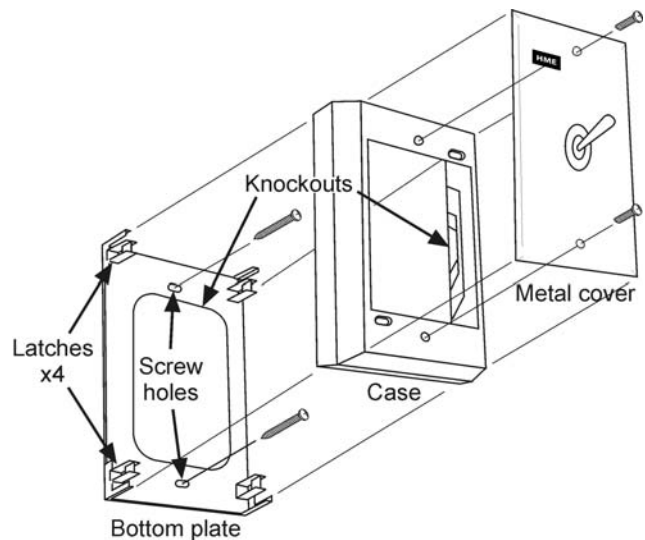

Figure 2. Wall-Mount Box
2. If the cable will be routed from the base stations, through the wall into the back of the bottom plate of the switch case, drill a $3/4$ inch (19mm) hole in the wall where the switch will be mounted, and remove the knockout from the center of the bottom plate. See Figure 2.
3. Hold the bottom plate against the wall where it will be mounted, and mark the wall through the two screw holes in the plate. See Figure 2.
7. Determine whether the cables from the audio system base stations should enter the wall-mount switch from the top, bottom, back or side of the plastic case. Remove the corresponding knockout from the top, bottom, back or side of the case. See Figure 2.
8. With this hole oriented in the correct position, place the upper plastic case over the bottom plate on the wall, and push the upper case onto the bottom plate until the four corner latches snap into place. See Figure 2.